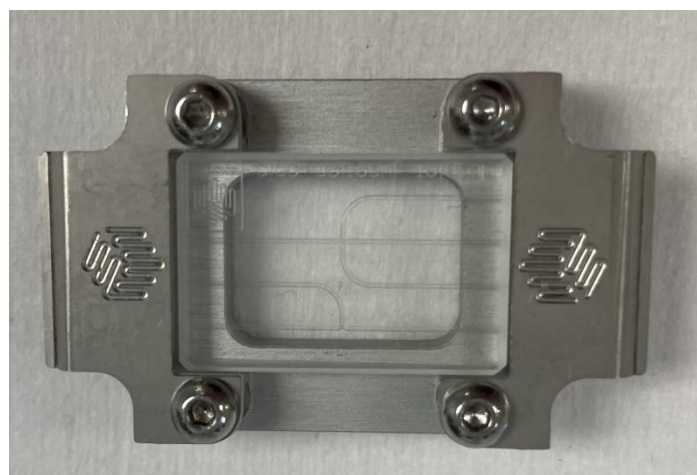

Figure 26 H Interface with Microfluidic Chip Inserted
Step 2: Insert the Chip into the H Interface (Figure 26).